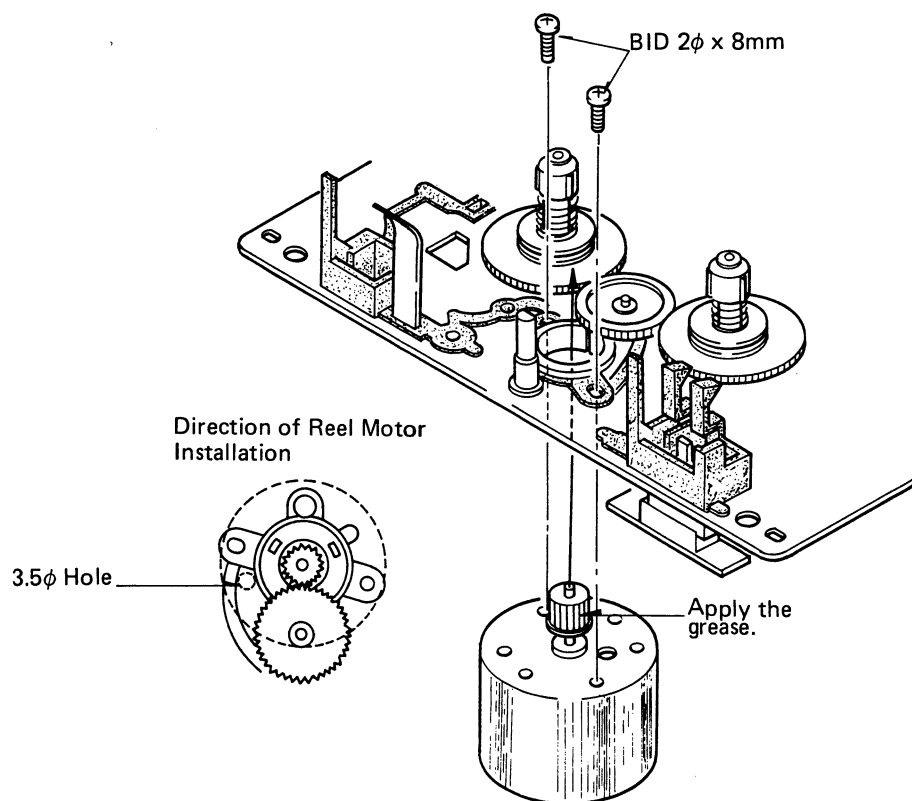

Figure 46
- When installing the new motor, be careful of the position of the marked hole (3.5 ϕ) on the reel motor as shown in Figure 46.